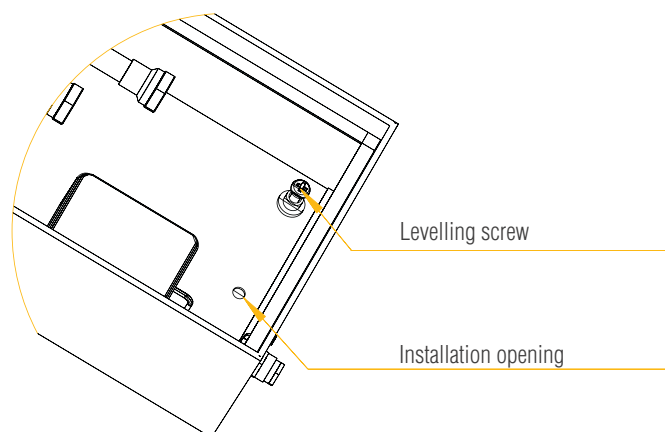
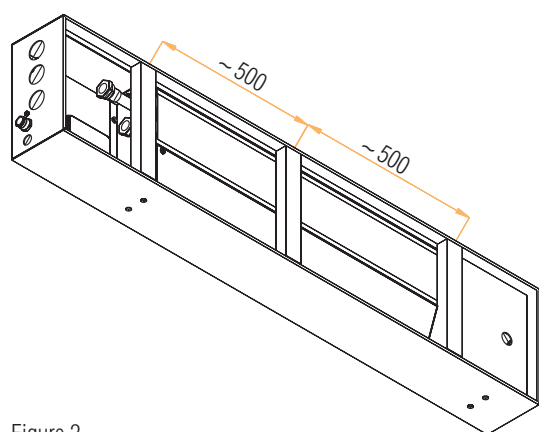
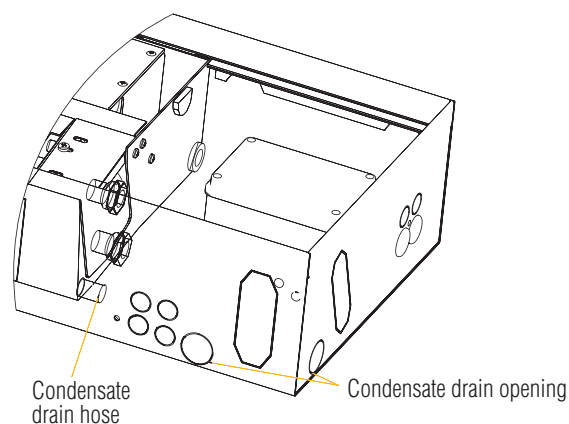
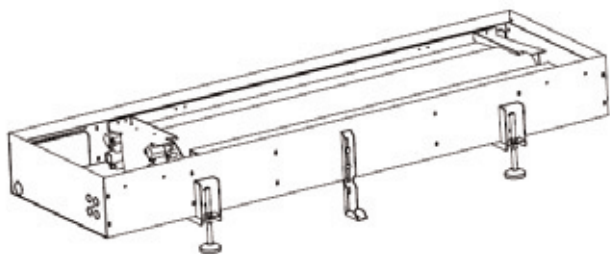

Figure 1
Figure 2
Figure 3
Figure 5
- In case of non flat surfaces, application of leveling screws is recommended (accessory 019). When the convector is adjusted to the correct position and lined to desired height, fix it with the screw (figure 1). Installation of thermal and noise insulation layer is recommended between the convector and concrete. Convector can be supplied with housing thermal insulation (accessory 017 - elastalon $s = 5$ mm). When the housing of the floor convector is placed directly to the concrete surface, make sure that contact is distributed along complete surface of the convector, otherwise increased noise level can apply (forced convection only). When installing in concrete, make sure to insert spacers, which serve to prevent housing deformations (figure 2). In order to prevent the grille from deformation and dirt, remove it before the installation and place protection cover (accessory 018) to its place (figure 5). Retainers are not attached to the convector. During the installation, the protective cover does not features as a retainer, but only protects the convector against impurities and damages of the internal ScanCom. Remove the cover and spacers, when convector is ready for operation. Condensate elimination is performed with $\phi 16$ mm socket on the lower side of the tray within the housing, hose can be leaded from the convector on the traverse or cross side (figure 3).
- In case of false floor installation, accessory 028, 029 is available (leveling and support legs). Legs are mounted in special holders, in pop nut M10. The optimal convector height is achieved by regulating the leg with a screw and finally fixing it with a spanner size 15. (Figure 5, 6). Legs can be regulated from 10 mm do 100 mm height.